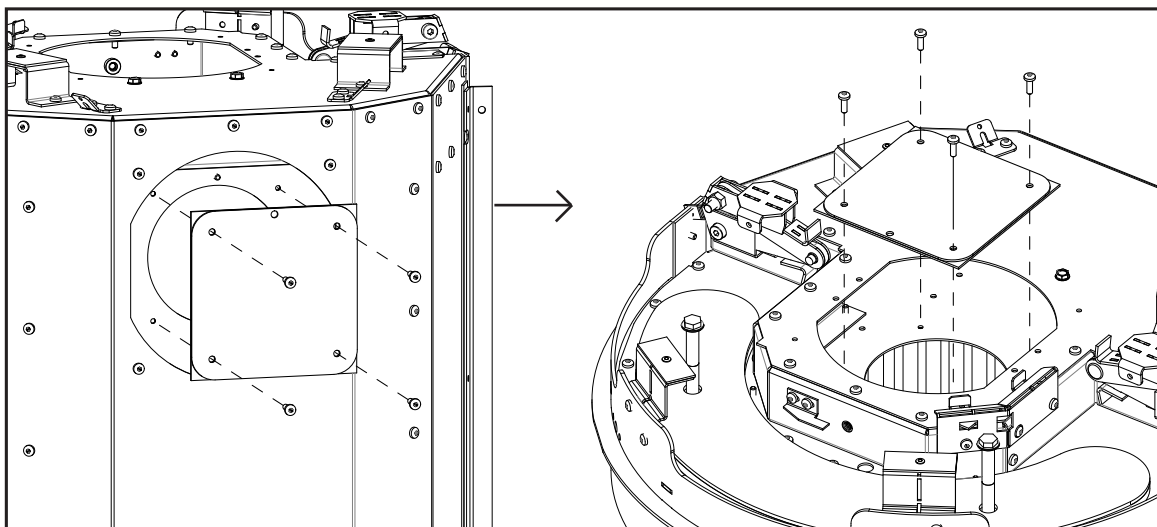

**Figure 68: Vent Adapter Removal**
7. Remove the vent adapter from the top of the unit by removing the four (4) T20 screws (see Figure 68). Be delicate with the gasket, you will be reusing this.